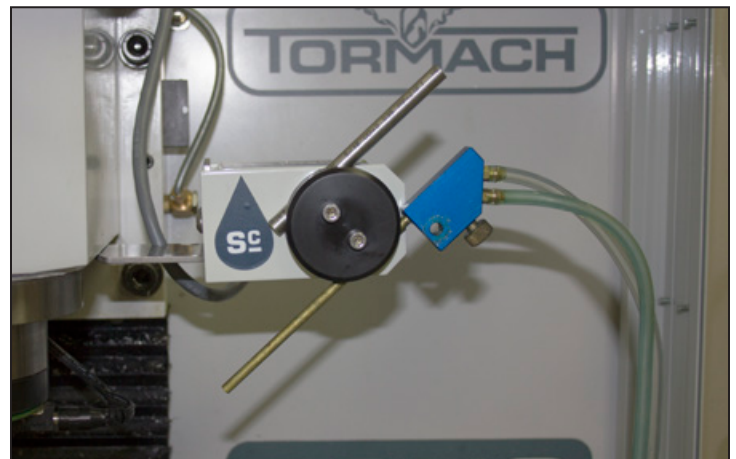

Figure 22
5. Re-install hub cap set aside earlier with mist slot on bottom. Insert two hoses into slots as shown in **Figure 22**; tighten screws finger-tight.